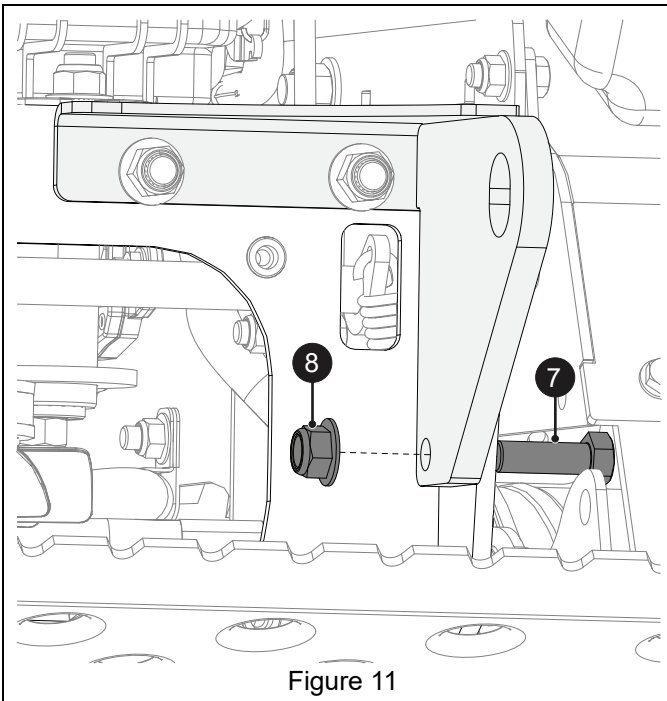

Figure 11
8. Secure side of upper mount with one 1/2" x 1 1/2" hex bolt (item 7) and one 1/2" nylon flange nut (item 8). Tighten all hardware. See Figure 11.